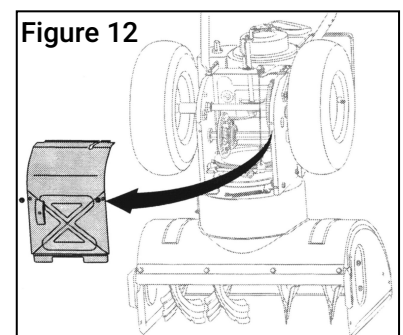

Figure 12
5. Carefully pivot the snow thrower up and forward so that it rests on the auger housing. Remove the bottom cover from the underside of the snow thrower by removing two self-tapping screws which secure it. See Figure 12.